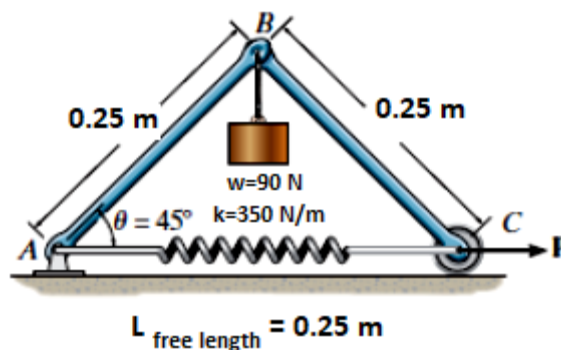

Fig.2
- (Q.2) Using the Method of Potential Energy, determine the magnitude of force P required (in Fig.2) for keeping the mechanism in position. The self-weight of member AB, and BC is 9 N (each). The spring is unstretched at $\theta = 45^\circ$. **(6 Marks)**